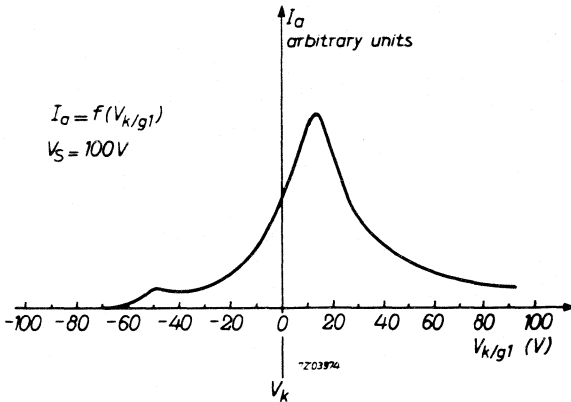

Fig. 1 Anode current variation with the adjustment of g_1 .
- a. the most satisfactory collection (i.e. for a given luminous flux the largest obtainable anode signal); for this adjustment, see Fig. 1; the optimum value of the potential is about $0.15 V_S$;